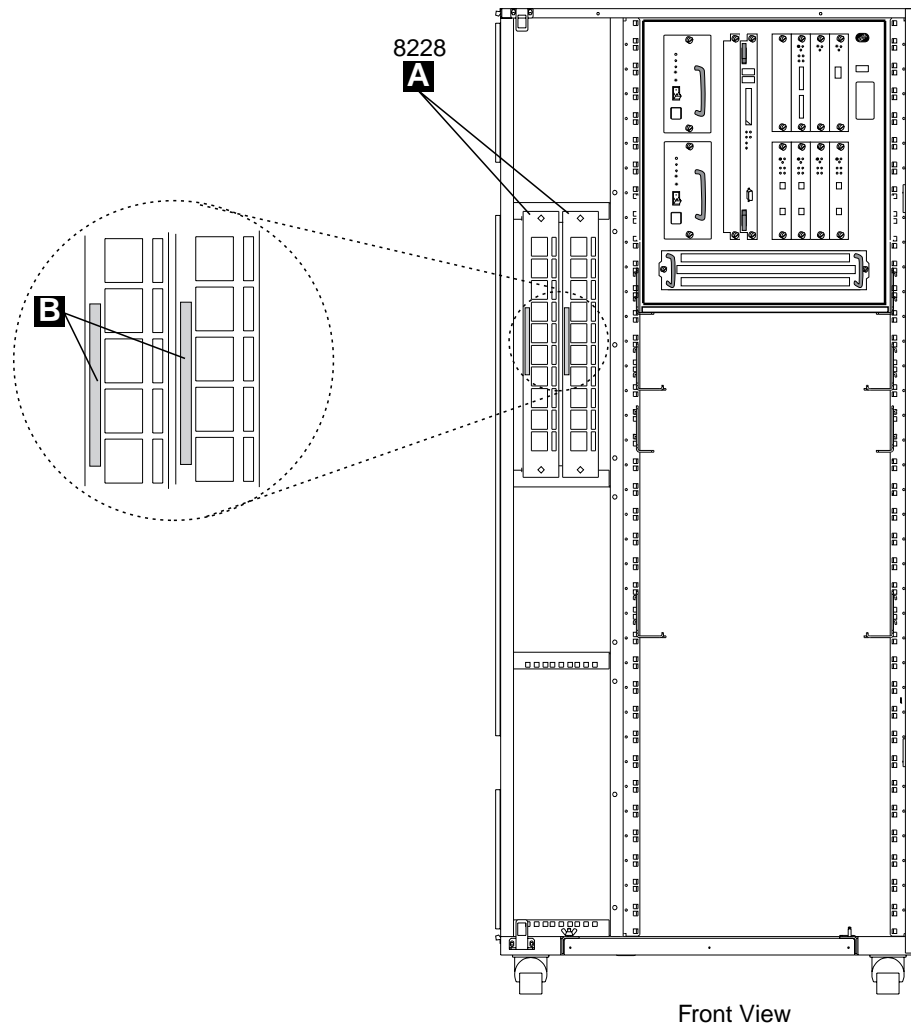

Figure 1-14. Installing the 8228 (Controller Expansion)
6. \_\_\_\_ Install the 8228s **A** in the controller expansion using two screws (PN 1621232) and two captive nuts (PN 58G5766) see Figure 1-14 on page 1-11. Using label **B** (PN 782964), identify the 8228 as MAE Access Unit.